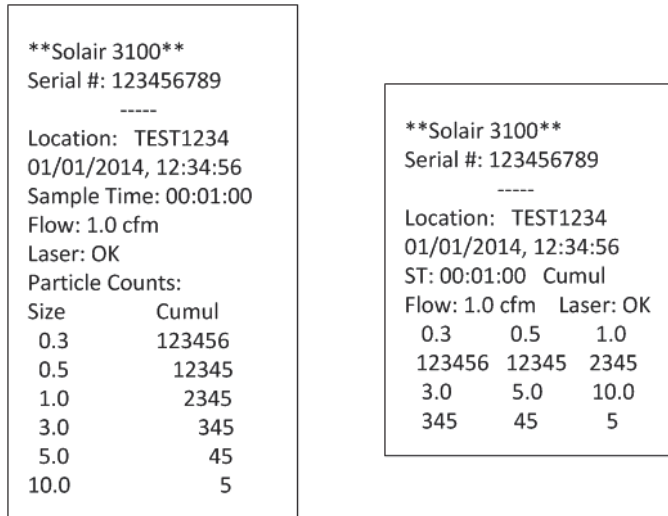

Figure 6-54 Examples of Portrait and Landscape Prints
- **PORTR** - Printer prints in Portrait mode. See Figure 6-54.
- **LANDSC** - Printer prints in Landscape mode. See Figure 6-54.